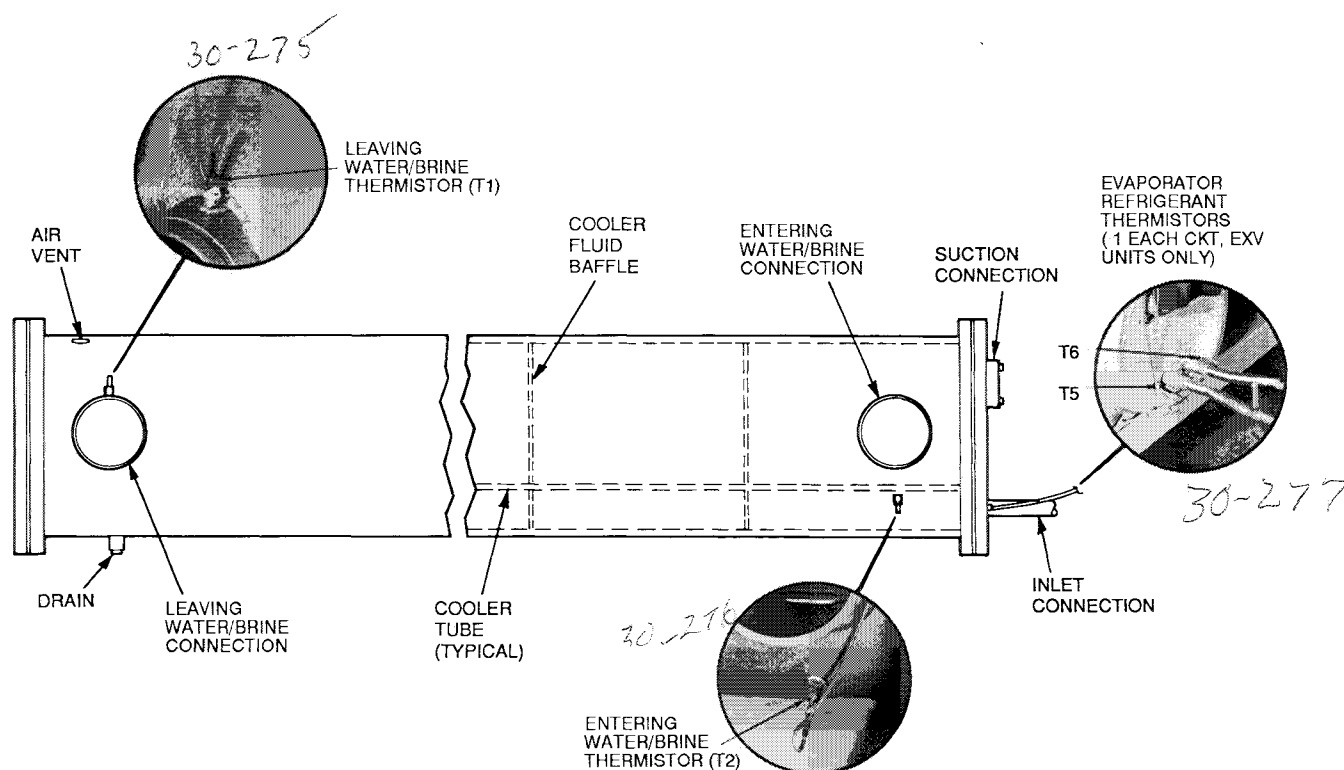

Fig. 13 — Cooler Thermistor Locations
3. Open the air vent at the top of the cooler, and open the drain on the bottom of the cooler near the leaving fluid outlet, to drain the cooler. Both the drain and the air vent are located on the leaving fluid end of cooler. See Fig. 13.
4. Disconnect the conduit and cooler heater wires, if equipped. Remove all thermistors from the cooler, being sure to label all thermistors as they are removed. Thermistors T1 and T2 are immersed directly in the fluid. T5 and T6 thermistors are friction-fit well-type thermistors. See Fig. 13.